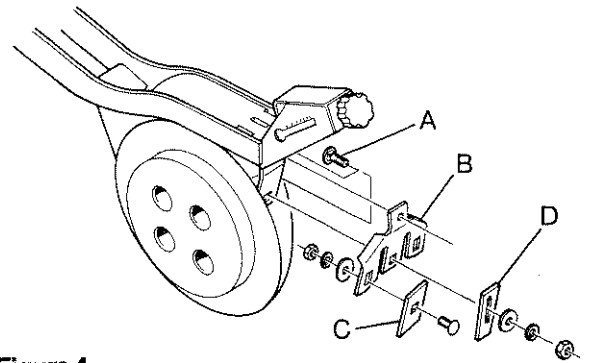

Figure 4
2. Reposition new outside scraper mount (B) to scraper mount on the back of the opener aligning the top holes of each and attaching with the $\frac{3}{8}$ " x 1 $\frac{1}{4}$ " carriage bolt (A), washers, and hex nut. (see figure 4).